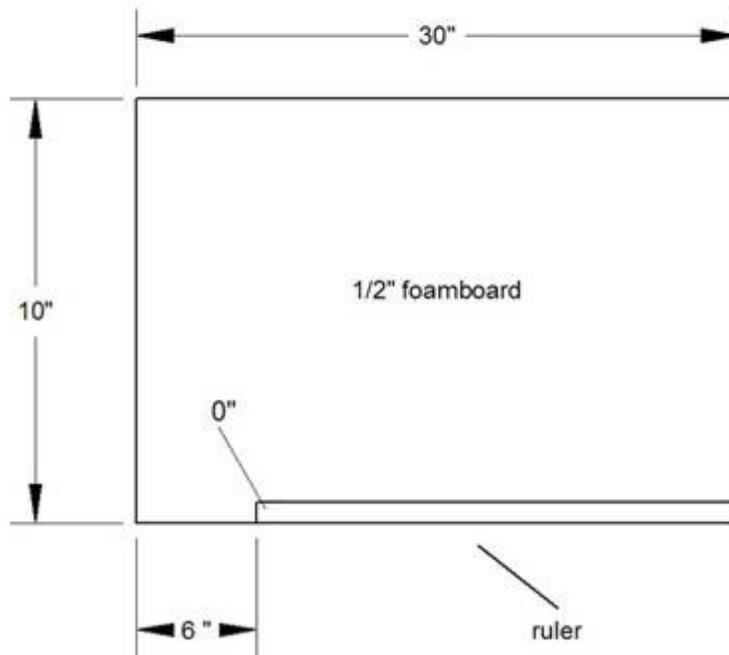

Figure 5. The diagram (top) and photo (bottom) show what the base for the optical bench will look like. Note the dimensions, in inches, marked on the diagram.
2. Attach the straight ruler to the top surface of the foamboard so that it lies along one edge, and the 0-inch end is 6 inches from one of the short sides (see Figure 5 below). It is best to tape or glue the ruler at its ends so the thermometer mount can slide along the edge of the ruler. This helps measure the position of the thermometer during the experiments.